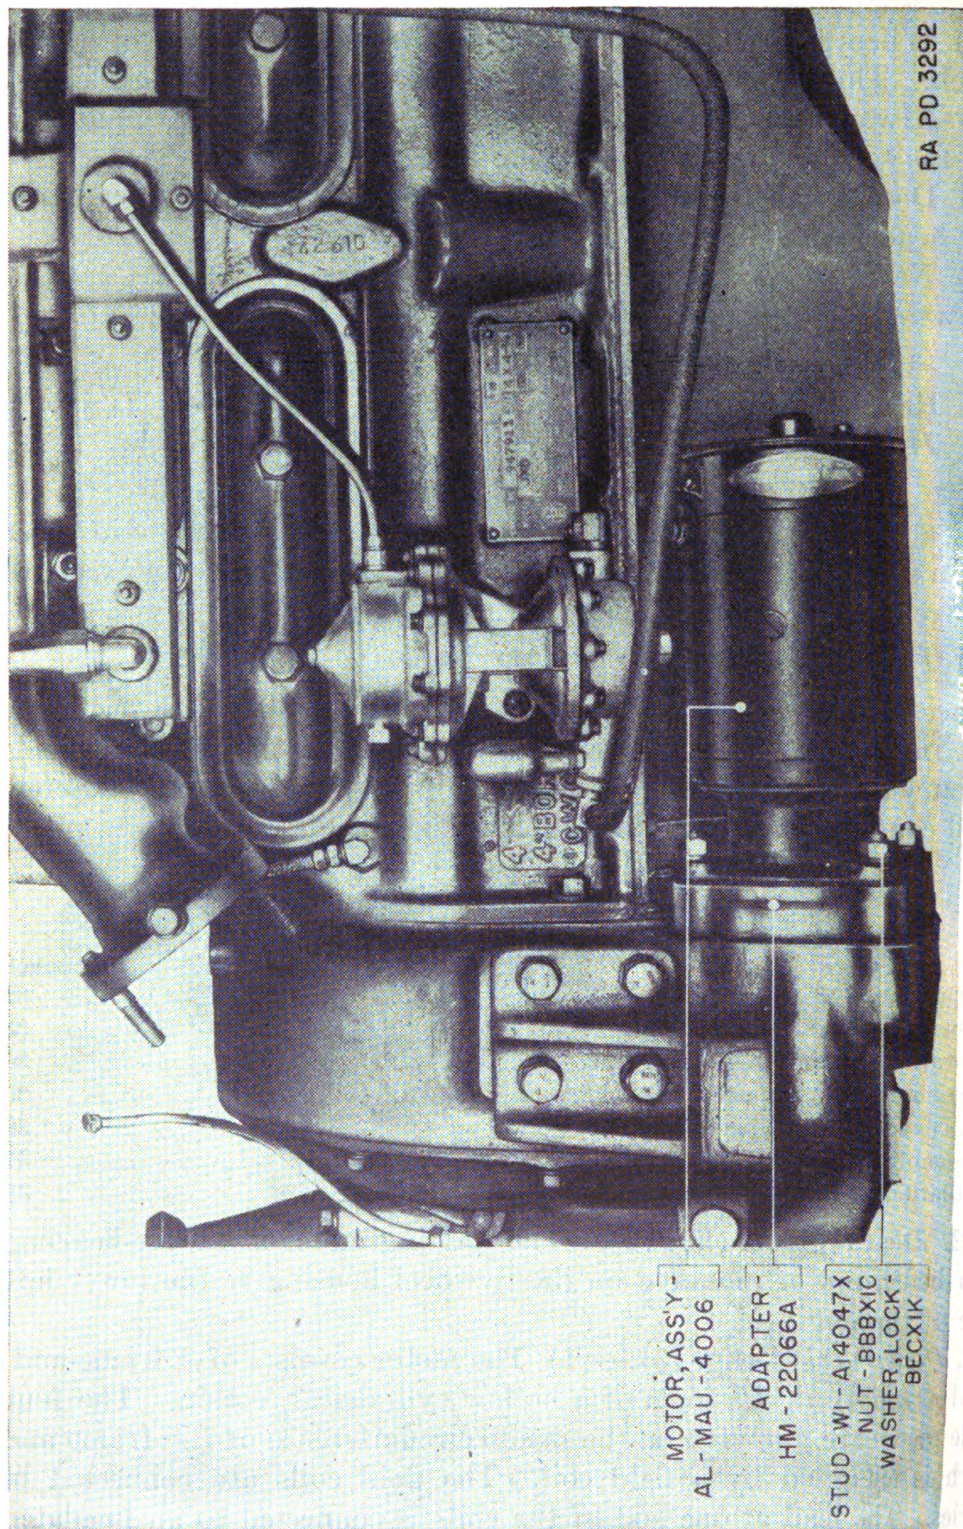

FIGURE 72.—Starting motor, installed.
32. Description (fig. 72).—The starting motor is a three-bearing, four-brush motor mounted on the flywheel housing at the lower left side of the engine.